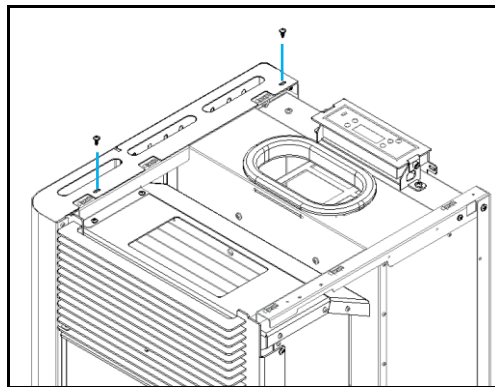

Figure 98 – Attaching the side casings the top of the unit
a) Fit the top plate as shown in Figure 98. To ensure that the top is properly seated, it contains four pins on the bottom that should fit the springs in the frame.